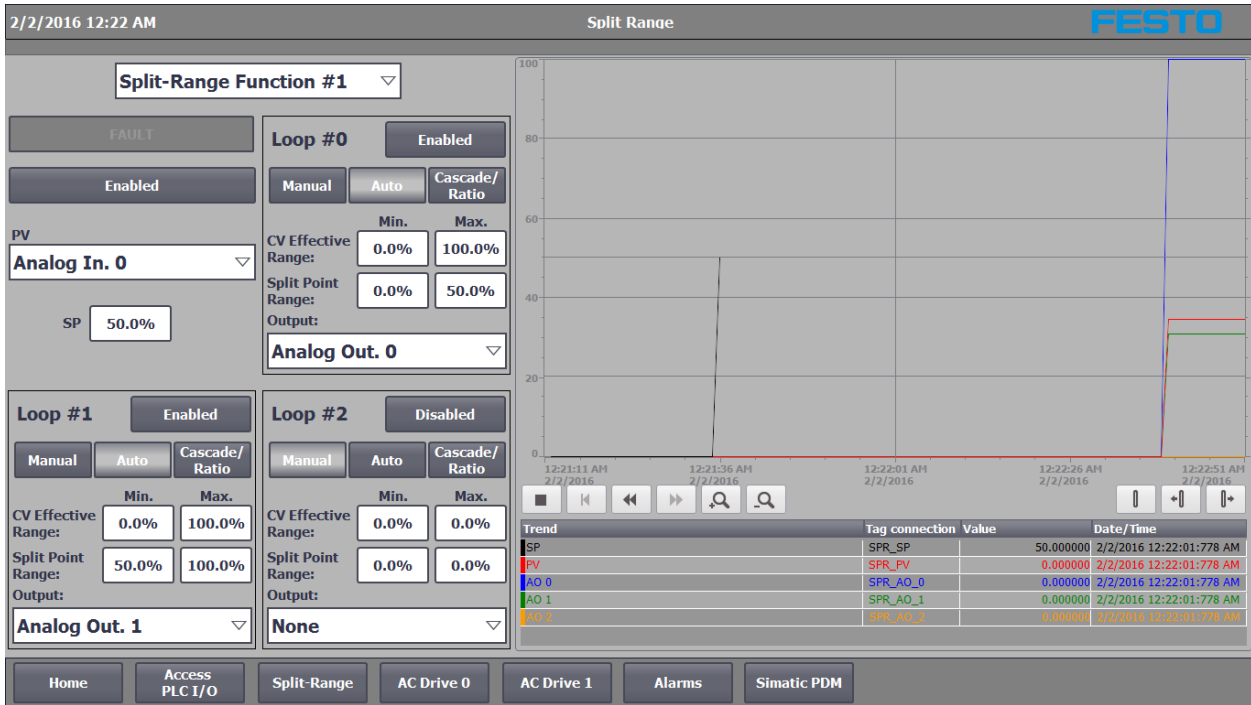

Figure 22. Split range.
Figure 22 shows a configuration for a split-range application with two loops. In this example, analog input 0 is the process variable (PV) and the set point is 50%. In the first control loop (Loop #0), analog output 0 varies from 0% to 100% (*CV Effective Range*) while the CV of the split-range scheme varies between 0% and 50% (*Split-Point Range*). When the value of the CV is above 50%, analog output 0 is topped at 100%. At this point, the second loop starts to operate. When the CV is between 50% and 100%, analog output 1 varies between 0% and 100%. Take note that the two loops need to be enabled, in automatic mode, and configured to work properly.